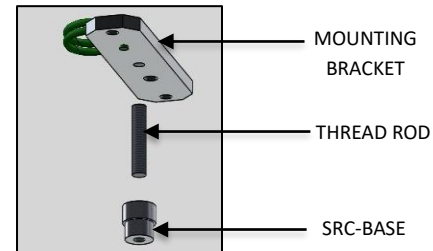

FIG. 21 – THREAD ROD INSTALLATION
10. Screw the THREAD ROD into the top of the SRC-BASE until fully seated. Then assemble the THREADED ROD/ SRC-BASE into the center hole of the MOUNTING BRACKET until SRC-BASE is fully seated against MOUNTING BRACKET as shown below in FIG. 21.